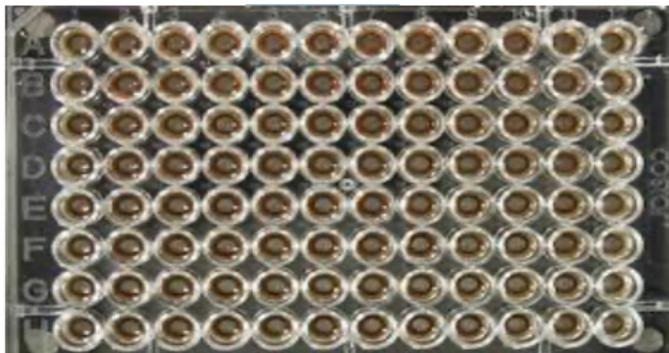

Figure 5: Extraction plate during wash step on magnetic plate.
10. After the 5 min incubation, remove as much of the 400 μ L of the supernatant as possible. Be careful not to disturb or aspirate the beads. See Figure 5.